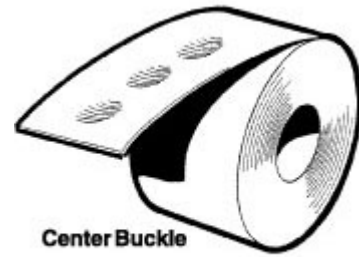
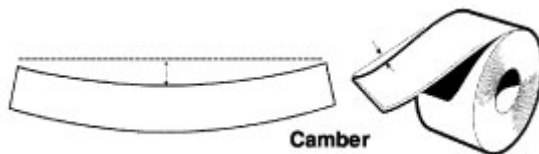

Figure 4
Figure 5
2. Edge-to-edge length differential. If the edges are longer than the center, you will have wavy edges (see **Figure 3**). If the center is longer than the edges, you will have center buckle (see **Figure 4**), sometimes called oil can or canoe. This category of defect also includes camber (see **Figure 5**) and twist (see **Figure 6**).